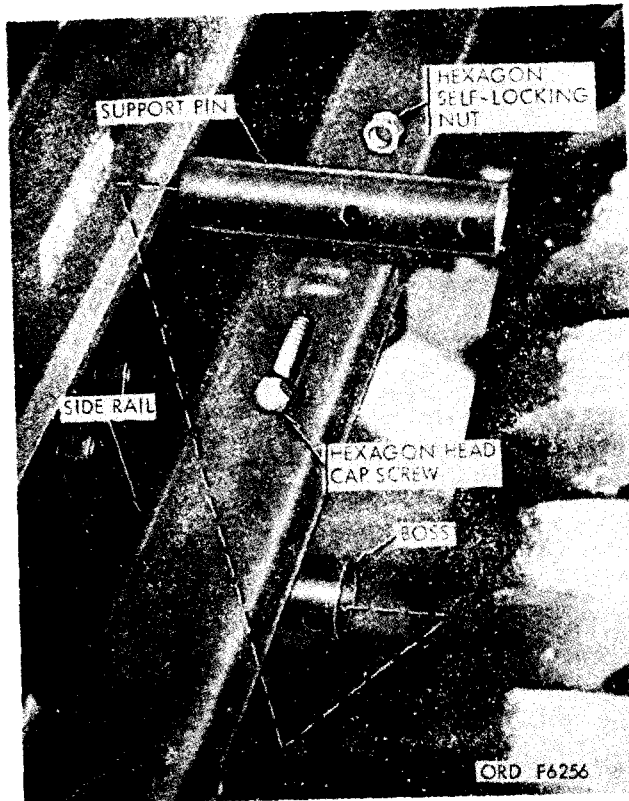

Figure 8. Support pin and boss in side rail.
b. Installation of Generator Set 6115-635-9954 (figs. 8 and 9).
- (1) Install a support pin (removed, *a*(1) above) through the boss in the side rail on each side of the trailer chassis. Place the holes in the support pin toward the tire and push the pins through the bosses until each pin touches the tire.
- (2) Using an appropriate type hoist, lower the generator set over and on the trailer chassis, with the control panel facing the rear of the chassis. Secure the generator set to the trailer chassis by installing a $\frac{5}{8}$ -11 x $1\frac{3}{4}$ -inch